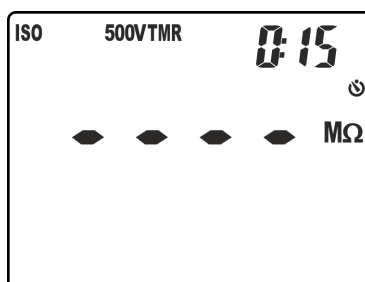

Fig. 20: Setting the measuring time in TMR mode
5. Press keys **▼/⚡** or **▲/ZERO** to select the measuring time (timer) choosing among the options: **15s, 30s, 1min, 5min, 10min**. Please note the value in the top part of the display on the right (see Fig. 20).
5. Press keys **▼/⚡** or **▲/ZERO** to select the measuring time (timer) choosing among the options: **1min (for DAR measurement)** or **10min (for PI measurement)**. Please note the value in the top part of the display on the right (see Fig. 20).